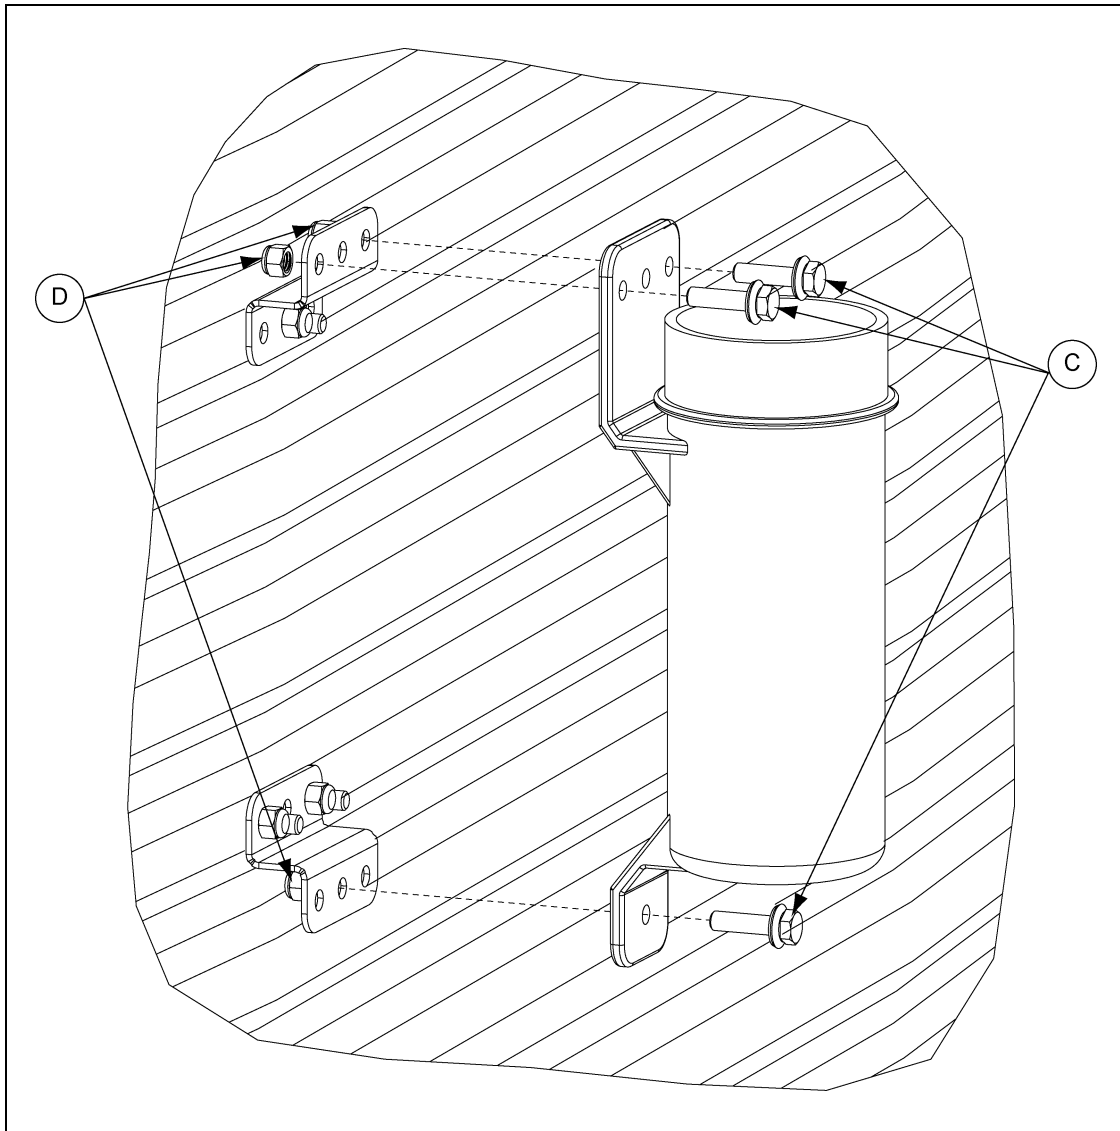

Figure 3C
8. Attach the canister to the canister bracket with three (3) 5/16"-18 x 1-1/4" bolts (C) and nylock nuts (D). (See Figure 3C.)